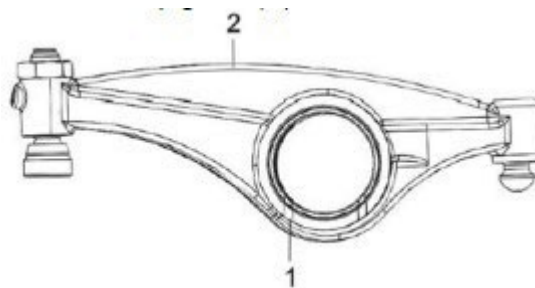

Figure 77. Rocker Arm
- Ensure the lubrication holes (Figure 77, Item 1) in the rocker arm shaft are oriented correctly with respect to the rocker arms (Figure 77, Item 2).
6. Insert a 0.4~0.6 mm feeler gauge between rocker arm shaft sleeve (Figure 77, Item 3), and intake rocker arms assembly (Figure 77, Item 5). If outside of specifications replace rocker arms.